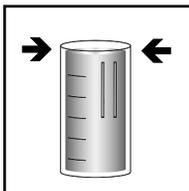

Figure 1
1. Fill the diluter snapper cup to the -ml- mark with **distilled water** (fig. 1).